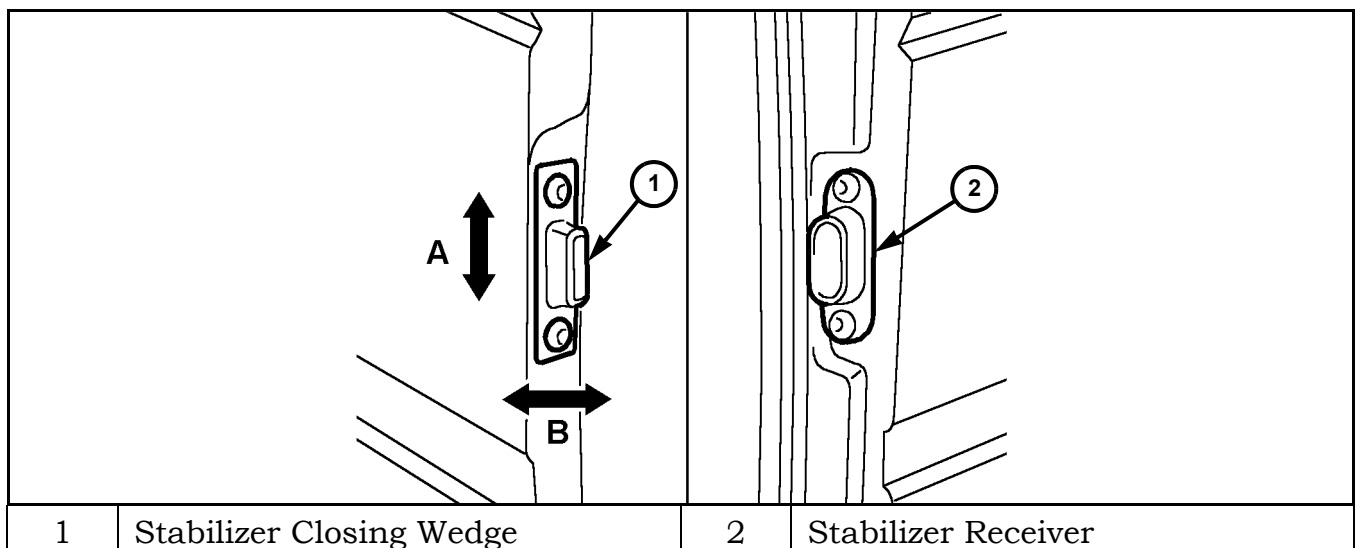

Figure 13 Stabilizer Closing Wedge Adjustment
18. Loosen stabilizer closing wedge bolts (Figure 13).
19. Adjust the position of the stabilizer closing wedges in relation to the stabilizer receivers by moving the guide wedges (arrows A, B). See Figure 13.